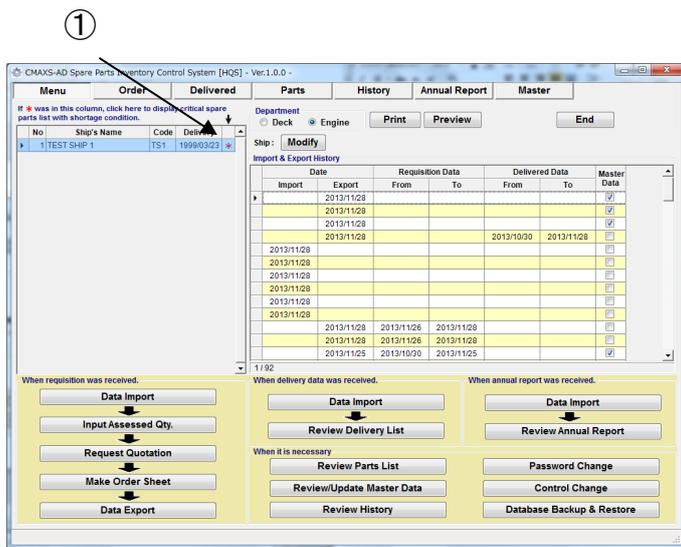

Fig.5-1 Menu Screen
- (1) On the "Menu Screen"(Fig.5-1), select [\*] mark on Ship list.